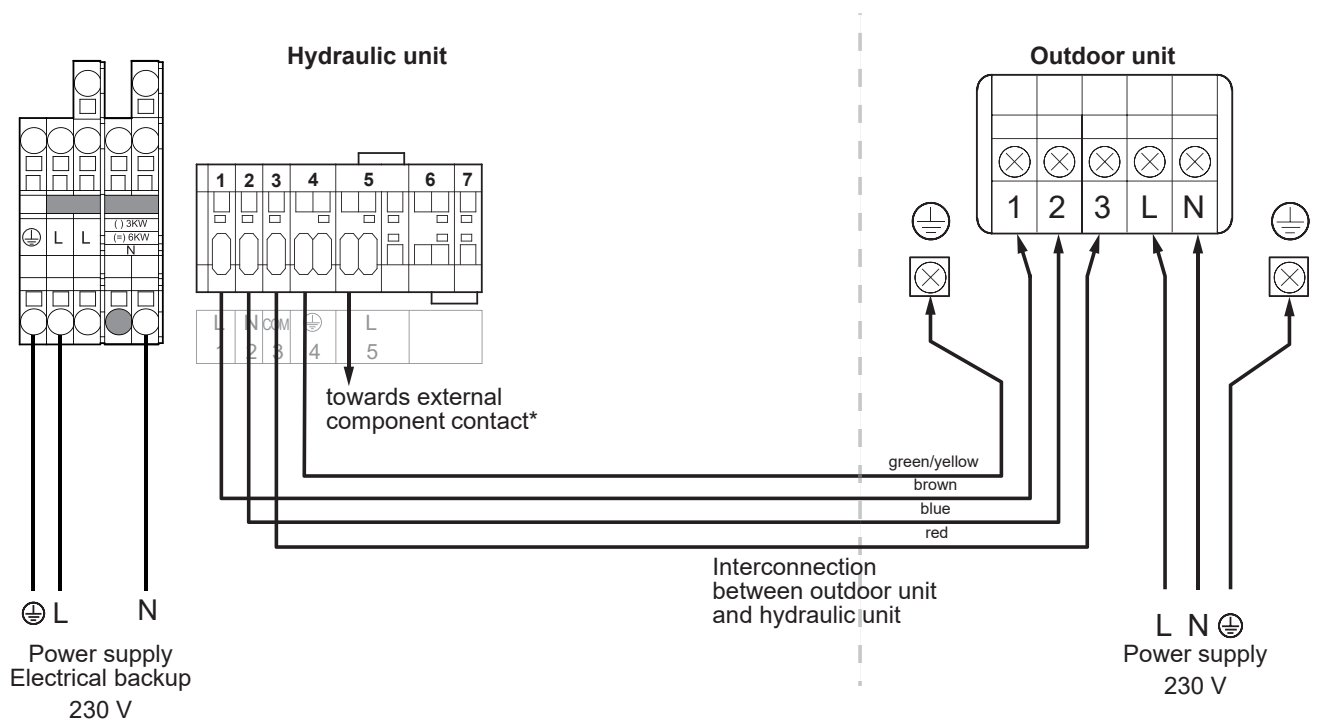

fig. 35 - Connection to terminal blocks and power relay
- Make the connections according to the diagram (fig. 35, page 39).